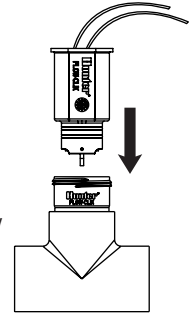

Figure 2
4. Insert the sensor into the sensor body (Check to make sure the two o-rings provided with the sensor are installed in the grooves at the lower end of the sensor). The sensor has a flat side that engages with a flat on the inside of the sensor body (figure 2).